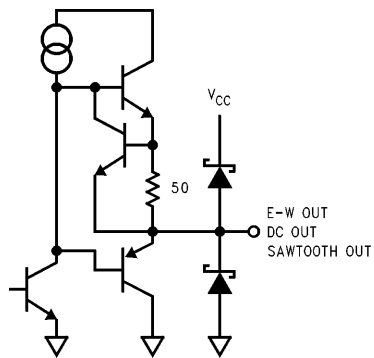

FIGURE 12
**Pin 11. E-W OUT:** The output waveform at this pin consists of the sum of the linear sawtooth, 2nd order parabolic and 4th order parabolic waveform components. The center position of the output waveform tracks the output voltage at pin 13 (DC OUT). See *Figure 12* for the output schematic.
**Pin 13. DC OUT:** This pin outputs a variable DC voltage from 3.65V to 4.05V. The output voltage is controlled by the control voltage at pin 1 (POSITION). See *Figure 12* for the output schematic.
**Pin 15. SAWTOOTH OUT:** This pin outputs an S-corrected sawtooth waveform with the amplitude controlled by pin 2 (HEIGHT). See *Figure 12* for the output schematic.